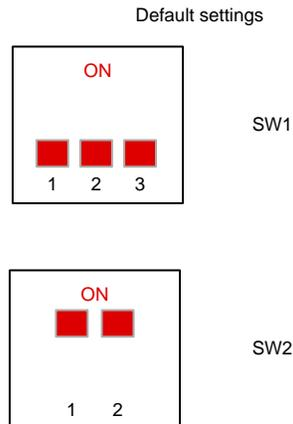

Figure 5. Software Configuration
3. Ensure the position of switches SW1 and SW2 are set to default setting as shown in Figure 5 to communicate to PC GUI through SCI-A.